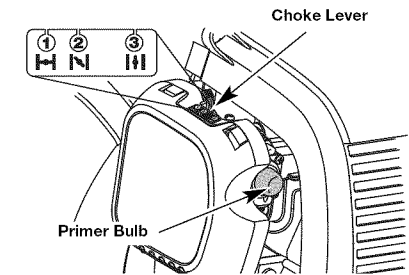
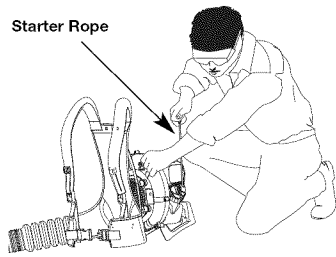

Fig. 13
Fig. 14
**WARNING:** Avoid accidental starting. Make sure you are in the starting position when pulling the starter rope (Fig. 14). To avoid serious injury, the operator and unit must be in a stable position while starting. To avoid serious personal injury, make sure that the blower tube is locked in place or firmly installed.
3. Slowly press and release the primer bulb 10 times. (Fig. 13). If fuel cannot be seen in the bulb, press and release the bulb until fuel is visible.
4. Move the choke lever to **Position 1** (Fig. 13).
5. Crouch in the starting position (Fig. 14). DO NOT squeeze the throttle control. Pull the starter rope 5 times in a controlled motion.
6. Move the choke lever to **Position 2** (Fig. 13).
9. **Continue to squeeze the throttle control.** Move the choke lever to **Position 3** (Fig. 13) and continue warming the engine for an additional 60 seconds. During this time the unit may be used.
3. Slowly press and release the primer bulb **10** times (Fig. 13). If fuel cannot be seen in the bulb, press and release the bulb until fuel is visible.
5. With the unit in the starting position (Fig. 14). Place the Plug-In Power Start or Power Bit Start into the back of the unit. Refer to Operation section of the Plug-In Power Start or Power Bit Start operator's manual.
6. **Do Not squeeze the throttle control**, press and hold the Plug-In Power Start or drill's ON (I) button for 2 seconds.
7. Move the choke lever to **Position 2** (Fig. 13).
8. **Do Not squeeze the throttle control**, press and hold the Plug-In Power Start or drill's ON (I) button for 2 second intervals until unit starts.
11. **Continue to squeeze the throttle control.** Move the choke lever to **Position 3** (Fig. 13) and continue warming the engine for an additional 60 seconds. During unit may be used during this time.
2. Press and hold the On/Off Control in the OFF (O) position until the unit comes to a complete stop. (Fig. 14)